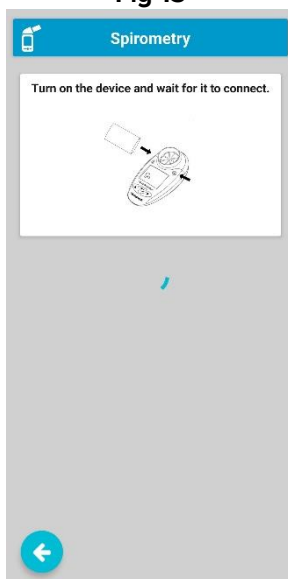
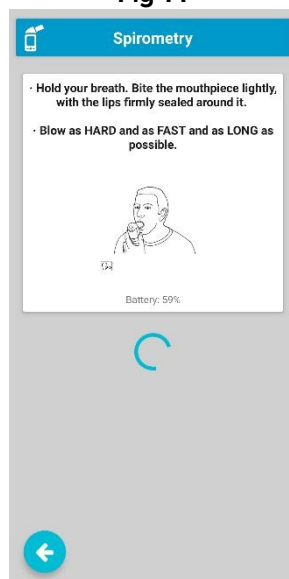

Fig 17
Fig 18
- Prepare the physical device (Fig 17 and Fig 18 - follow the instructions provided on screen).